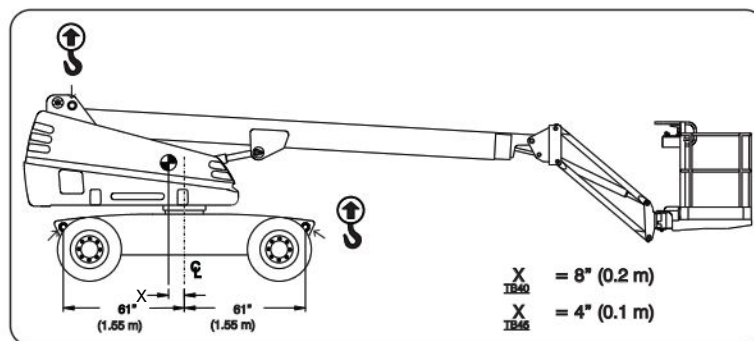

Figure 3-14. 40/45T Lifting Points
When lifting the aerial platform, lifting devices must be attached to designated lift points only (refer to Figure 3-14).
4. Properly adjust rigging to ensure aerial platform remains level during lifting. See Center of gravity location (Figure 3-14).